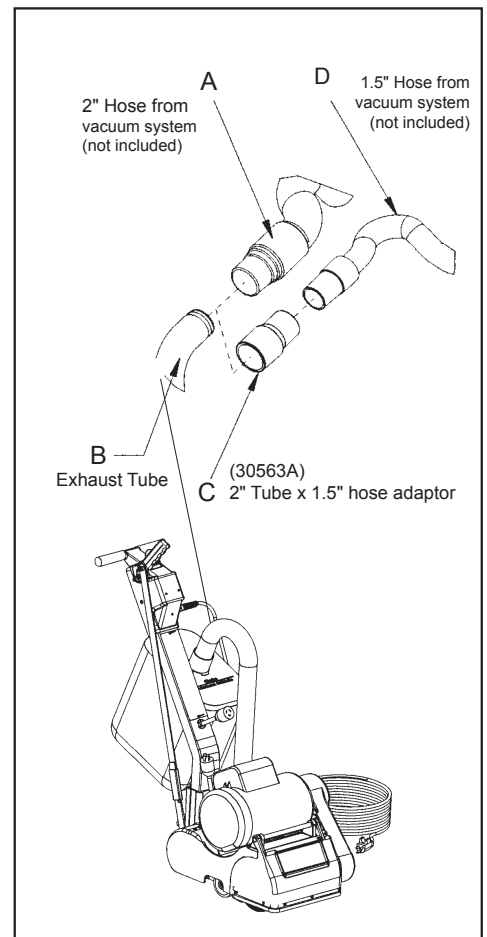

Figure 1
2. Insert 1 1/2" hose end (figure 1, D) into the adaptor (figure 1, C).